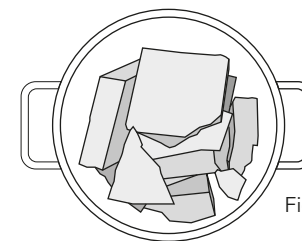

Fig.1
1) Put the wax in the melter trying to fill the bottom of the melter well and leave no gaps. If you want to melt the paraffin into slabs, it is advisable to break it into small pieces. Load small quantity of wax step by step (for example 5 kg at a time until it liquefies). (Fig.1)